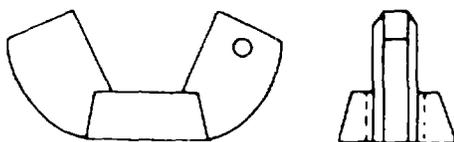

Figure 2-26. Wingnut
f. Wingnuts. Use MS35425 and MS35426 wingnuts, as shown in figure 2-26, where desired tightness is ordinarily obtained by the fingers, and where the assembly is removed frequently. When a plain wingnut requires securing with lockwire, a 0.070 inch (± 0.010 inch) diameter hole must be drilled in the center of one lobe The WC02 self-locking wingnut does not require lockwire.